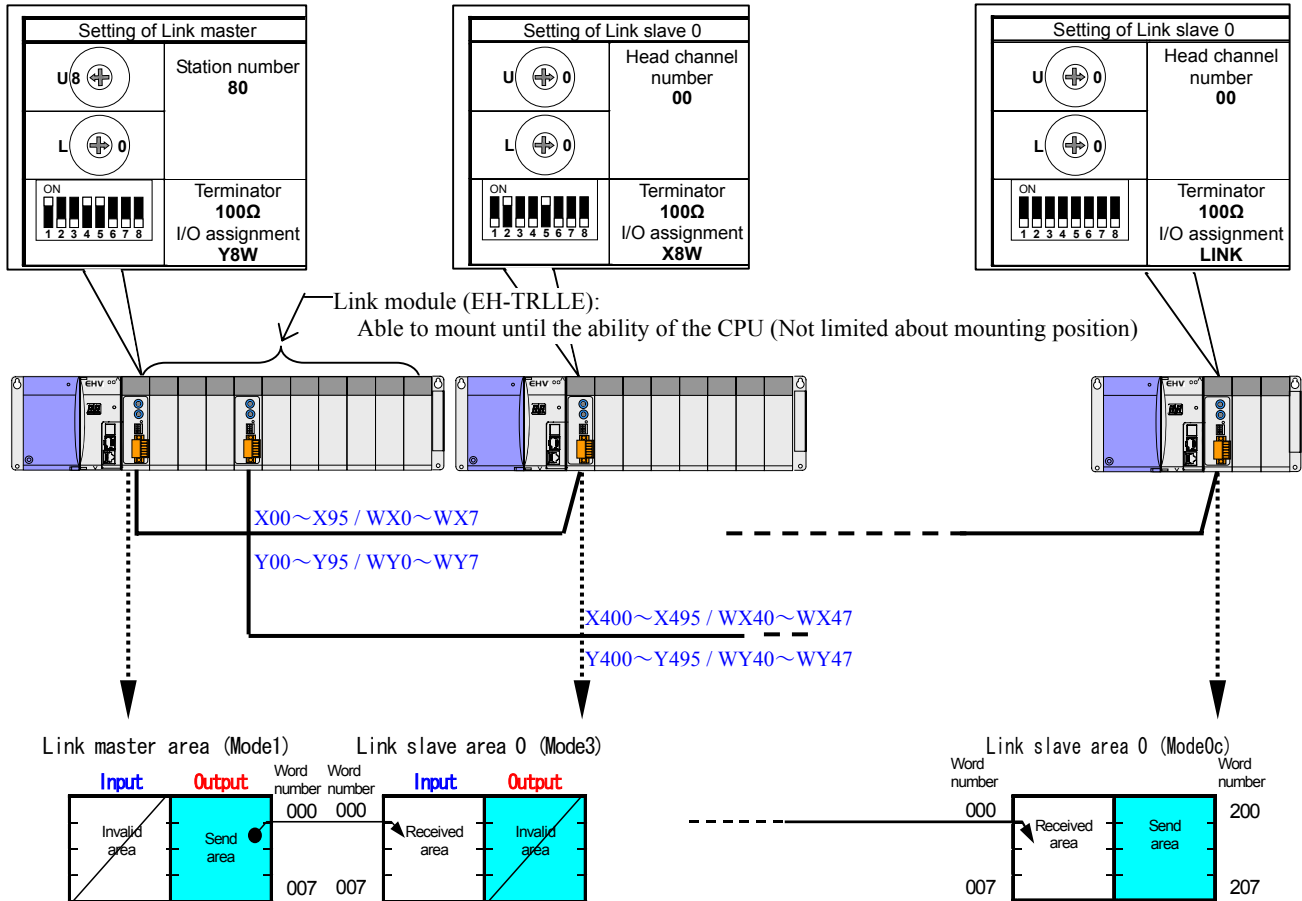

Figure 4.3.8 System configuration example (Master: Mode1)
Figure 4.3.8 is the system configuration example that master station is set to Mode1. Refer to section 3.1 for the setting method of the compatible mode.
- 2) When the slave station is set the rotary switches to the operation mode "Mode3", the head channel number is the head I/O number (in the case of figure 4.3.8: WX0), and the module occupies 8 channels from head channel.
- 3) When the slave station is set the rotary switches to the operation mode "Mode0c", the head channel number is the head number of the link area (in the case of figure 4.3.8: WL0), and the module occupies 8 channels from head channel. In this mode, the output area of the slave station sets the link area from WL200 to WL207 by link parameter. So, the input area owns link area from WL0 to WL7. There are the inputs of 128 points and the outputs of 128 points.